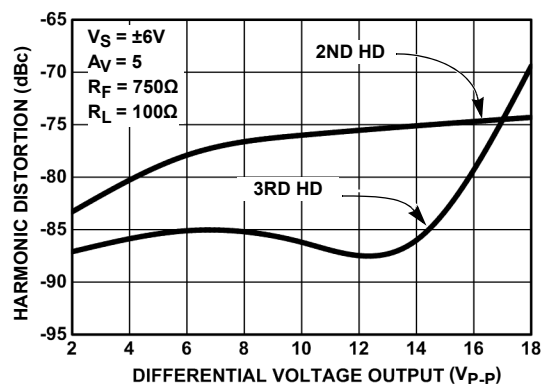
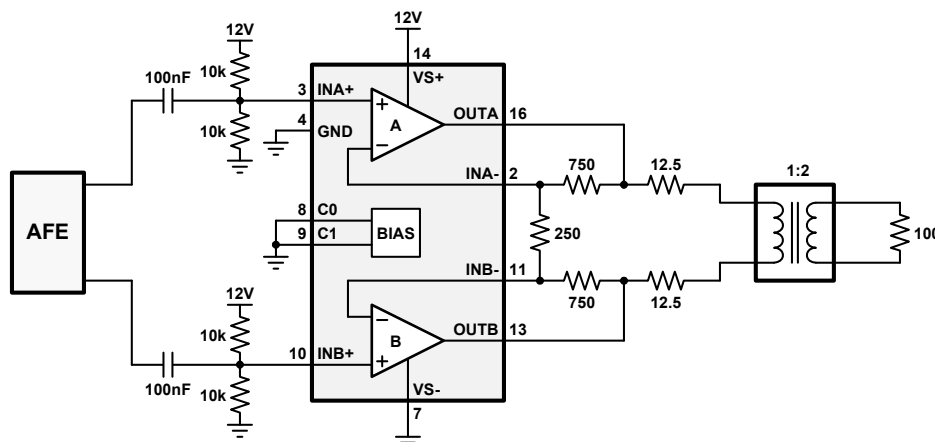
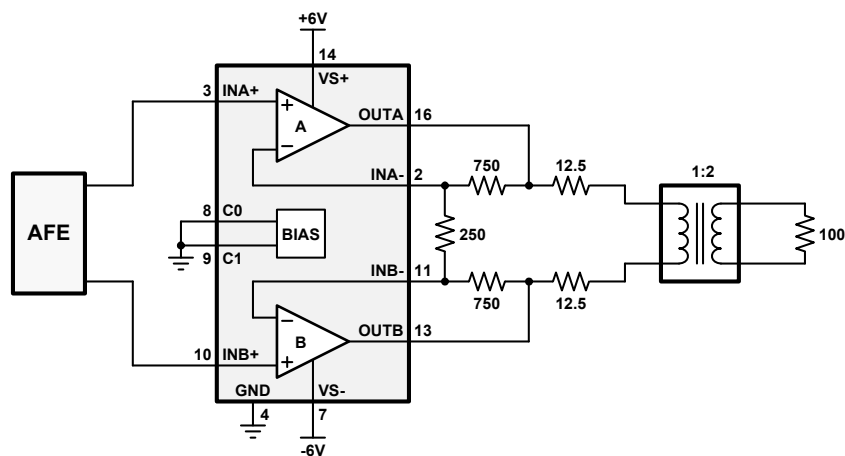

FIGURE 8. HARMONIC DISTORTION AT 2MHz
FIGURE 25. SINGLE SUPPLY OPERATION WITH INPUT COMMON-MODE BIASING
FIGURE 26. ADSL CPE DRIVER
- DC bias the inputs at an appropriate common mode voltage and AC couple the signal (Figure 25), or:
line voltage is 1.67VRMS. The ADSL DMT peak to average ratio (crest factor) of 5.3 implies peak voltage of 7.5V into the line. Using a differential drive configuration and transformer coupling with standard back termination, a transformer ratio of 1:2 is selected. The circuit configuration is shown in Figure 26.
| May 2, 2018 | FN7522.4 | Added Figure 1.Added ISL1557FRZ part information throughout document.Added Pin Description tableAdded Table 1.Added Theta JA and JC information under the Thermal Information section.Updated Figures 8 through 16.Added Figure 25.Updated Figure 26. |